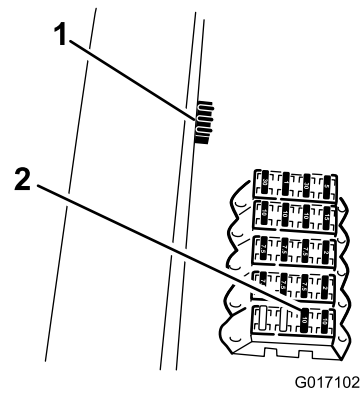

Figure 2
6. Following the existing wire harness, route the section of the harness with the ring terminal connector and the fuse block connector to the fuse block and grounding block (Figure 2).